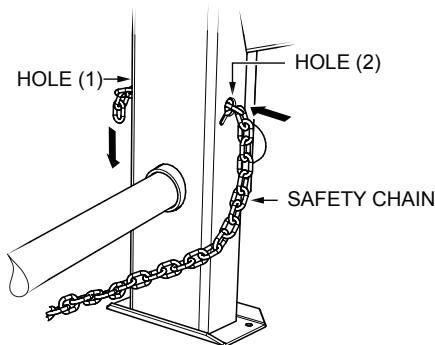

Figure 4. Attach Safety Chains to Mixer Stand
3. Route the safety chain through the holes (Figure 4) located on each side of the mixer stand just above the tow bar.